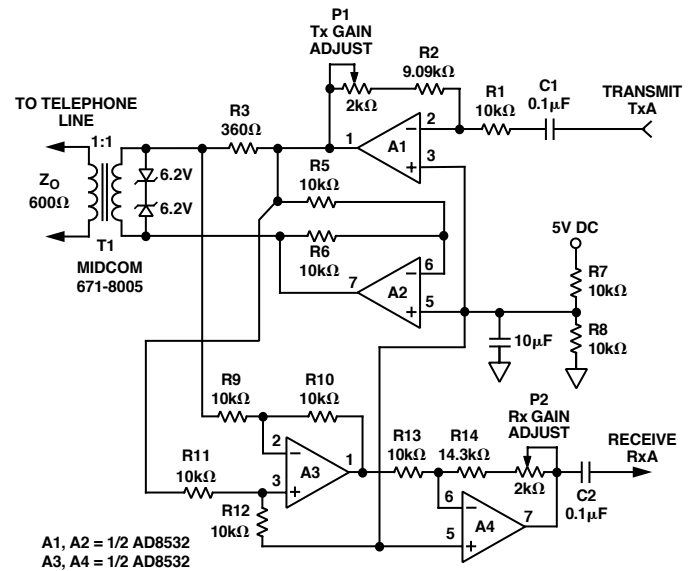

Figure 42. A Single-Supply Direct Access Arrangement for Modems
Figure 42 illustrates a 5 V only transmit/receive telephone line interface for 600  $\Omega$  transmission systems. It allows full duplex transmission of signals on a transformer coupled 600  $\Omega$  line in a differential manner. Amplifier A1 provides gain that can be adjusted to meet the modem output drive requirements. Both A1 and A2 are configured to apply the largest possible signal on a single supply to the transformer. Because of the high output current drive and low dropout voltage of the AD8531/AD8532/AD8534s, the largest signal available on a single 5 V supply is approximately 4.5 V p-p into a 600  $\Omega$  transmission system. Amplifier A3 is configured as a difference amplifier for two reasons: (1) It prevents the transmit signal from interfering with the receive signal and (2) it extracts the receive signal from the transmission line for amplification by A4. A4's gain can be adjusted in the same manner as A1's to meet the modem's input signal requirements. Standard resistor values permit the use of SIP (Single In-line Package) format resistor arrays.